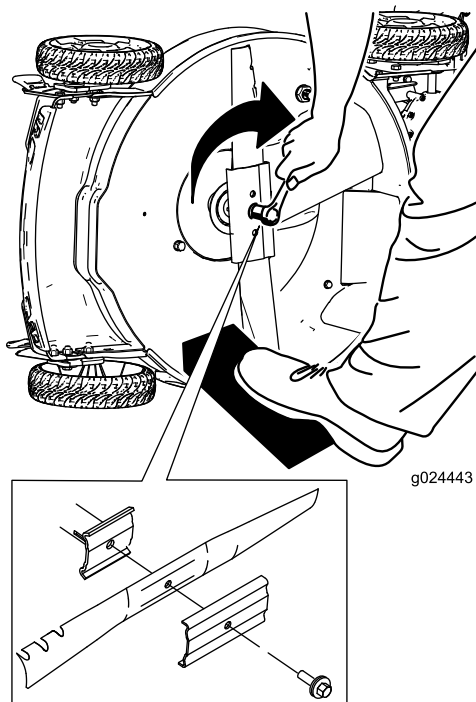

Figure 13
1. Install the new blade and all mounting hardware (Figure 13).